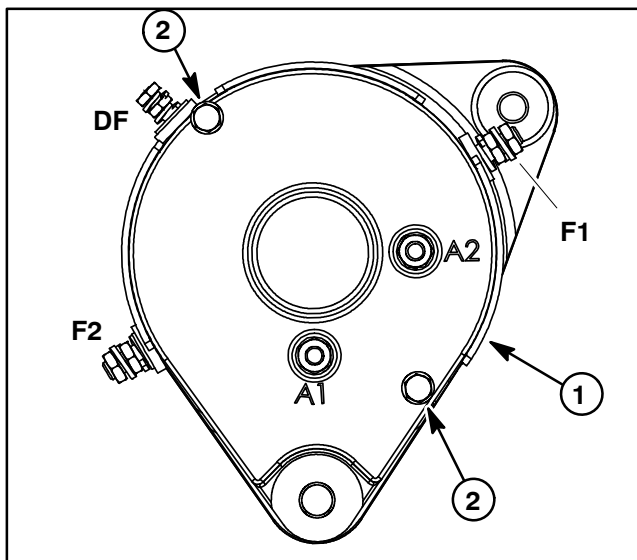

Figure 17
3. If starter/generator is a Advanced Motor and Drives brand (identified by through bolts that are near the outer diameter of commutator end cover) (Fig. 17):